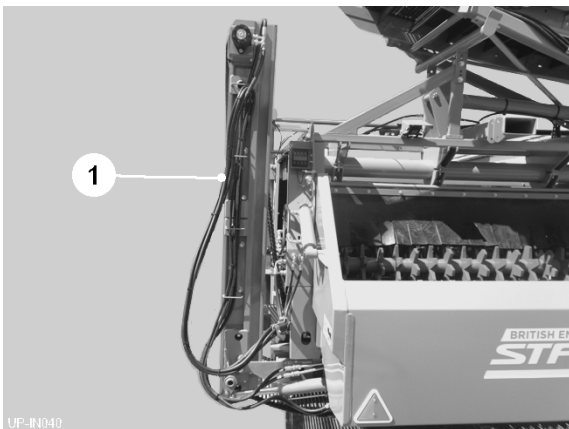

Fig 14
The LH side of the cross conveyor (item 1, fig 14) is folded vertically to reduce the width for transport. The control switches are mounted on the LH side of the machine.